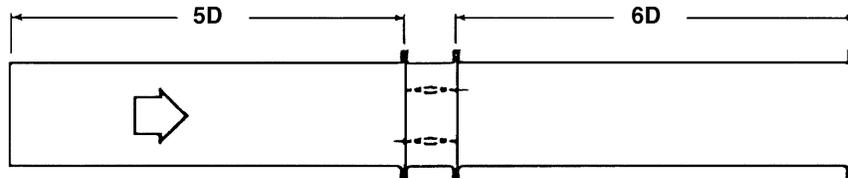

Figure 5.3
The air performance of a damper is described by the pressure drop across the damper. So what is pressure drop? Pressure drop can be defined as the resistance to airflow across an open damper and increases as turbulent flow increases. Pressure drop is figured using one of the three arrangements found below. Ruskin's pressure drop testing was conducted in accordance with AMCA Standard 500 using figure 5.3 shown. All data has been corrected to represent standard air at a density of .075 lb/ft³. Actual pressure drop found in any HVAC system is dependent upon many factors. This pressure drop information along with an analysis of other system influences should be used to estimate actual pressure losses for a damper installed in a given HVAC system.
Figure 5.3 illustrates a fully ducted damper. This configuration has the lowest pressure drop of the three test configurations.
1. Ratings are based on AMCA Standard 500 using test set up apparatus figures 5.3 (damper installed with duct upstream and downstream).
1. Ratings are based on AMCA Standard 500 using Test Setup Apparatus Figure 5.3 (damper installed with duct upstream and downstream).